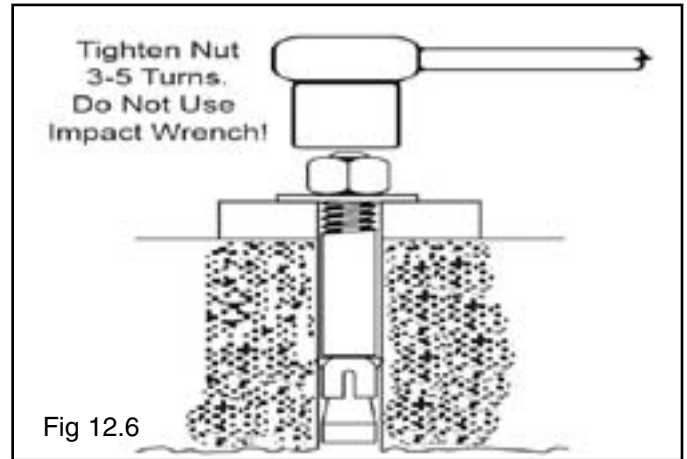

Fig 12.6
6. With the anchor bolts in place, tighten nut three to five turns past finger tight. DO NOT use an impact wrench for this procedure. (See Fig. 12.6)